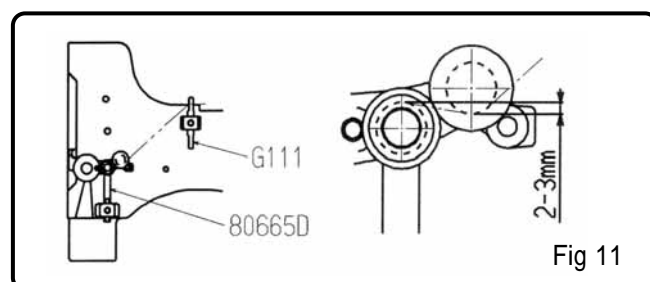

Fig 11
Adjust the rolling needle thread guide assembly (80665D) so that the needle thread is raised by 2 to 3mm, (as shown in Figure 11), when the needle reaches the lower limit.
b) 上糸調節 Fig. 11